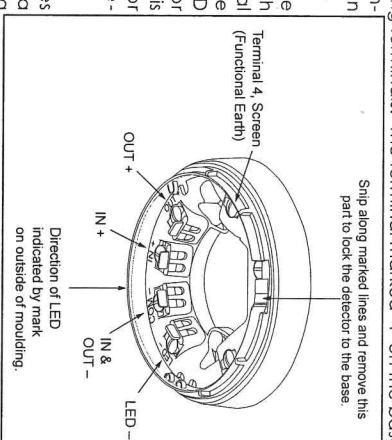

Fig 1 The Orbis base terminals
1. Activate the locking mechanism if the detector is to be locked into the base. To do this, remove the small portion of plastic shown in Fig 1 with side cutters or similar tool.
3. Fig 1 shows the wiring terminals. The terminal marked '4' on the base is provided for connecting the screen or functional earth.
If the locking mechanism of the Orbis TimeSaver base has been activated in error the base may be converted back to a non-locking base by removing the detector and cutting out the small portion of plastic marked with a cross-hatch in Fig 1. It is now permanently a non-locking base.